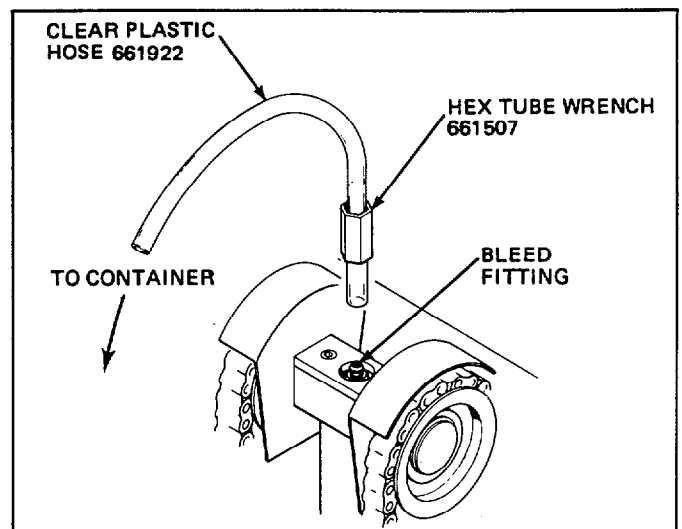

Figure 18. Hoist Cylinder Bleed Kit
6. The Customer User Kit 668677 includes a metal hex tube wrench 661507 and a length of clear plastic hose 661922. Slide the plastic hose through the hex tube wrench and onto the bleed fitting located at the top of the cylinder crosshead. Put the other end of the tube in a container to collect oil. See Figure 18.